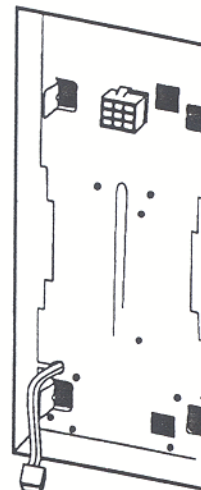

Fig. 2
**Step 1.** Position rough-in section in wall at intended location and fasten securely. Bar hangers are adjustable from 14" to 24". If desired, brackets may be placed on the short sides of the housing for the end mount units. Loosen two screws securing brackets to the long side of the housing, and secure to the short sides through the keyslots provided. (Fig.2)